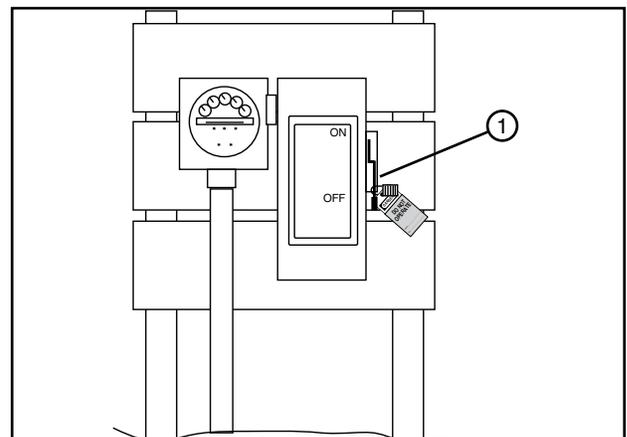

Figure 31-2 1. Power Service Disconnect
2. Turn OFF and lock the electrical service disconnect at each tow location. See figure 31-2.